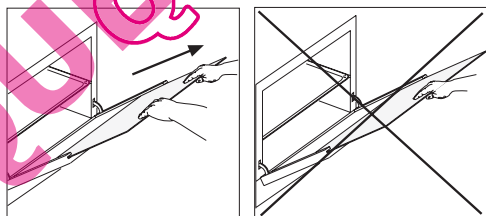

Fig. 9A
Use both hands to remove the glass as shown in figures 9A
- 3 shut the oven door slowly until it reaches hooks "A", making sure these are locked into slots "B" of the oven door, as shown in fig. 9C. Remove the glass Fig. 9A (only for models where present).